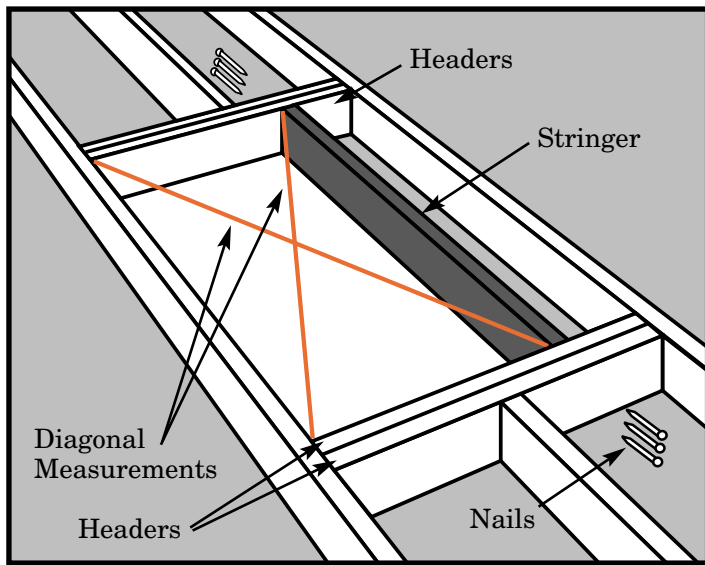

Figure 21
- STEP 4.** Position the stringer(s) along the unframed side(s) of your location (Figure 21). Check that the inside dimensions of the frame are the same as the rough opening shown on the box or in Table 2 on page 9.
- STEP 5.** To attach the stringer(s) to the headers, use nails that are long enough to go through both headers and into the stringer at least one inch. In most cases, a 4 inch nail (20d) will be long enough. Square the stringer(s) to the headers at one end and drive 3 nails through the headers and into the stringer. Check for squareness then nail the other end. Check the rough opening for squareness by measuring across the diagonals. The two measurements should be within 1/8" to be considered square (Figure 21).